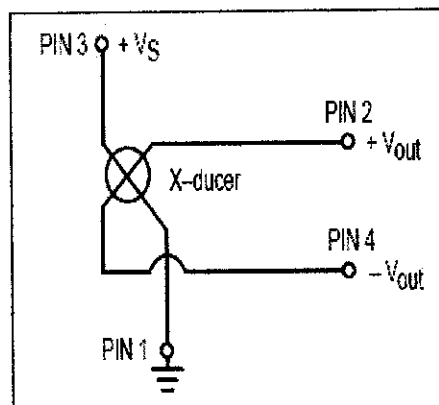

Figure 8: Uncompensated Pressure Sensor Schematic [6]
- Figure 8:** Uncompensated Pressure Sensor Schematic